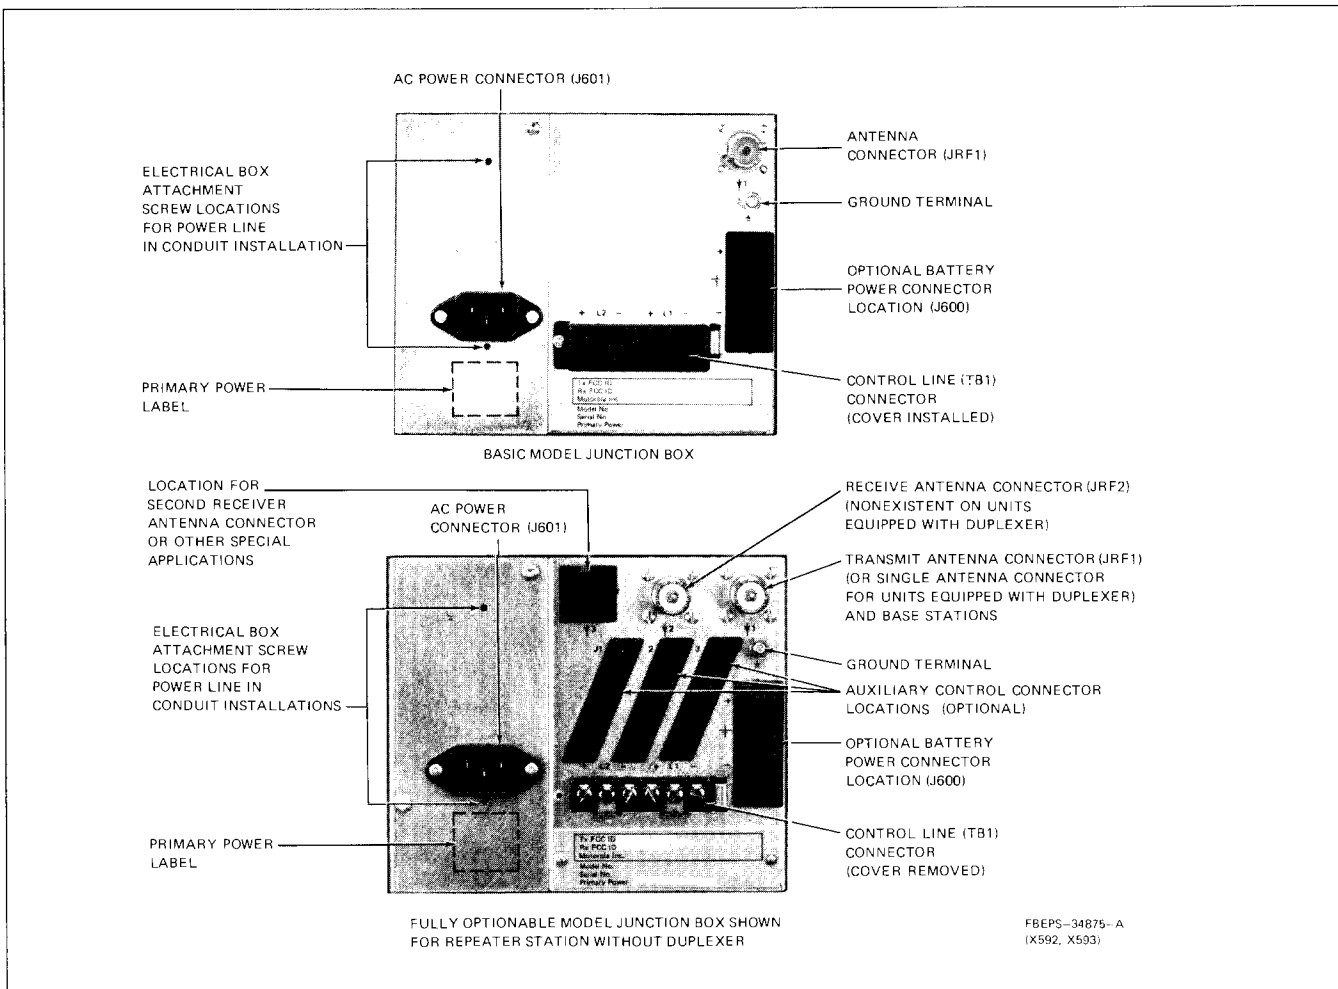

Figure 2. External Connection Details
6.3 All coaxial antenna cables connect to UHF coaxial connectors located on the junction box. For repeater stations without the optional duplexer, two antennas are required; one for the transmitter and one for the receiver. For repeater stations with the optional duplexer, only one antenna is required. Refer to Figure 2 for antenna connection details.
Step 2. Connect the female plug of three-wire ac line cord to the power connector on the junction box. See Figure 2.
Step 4. Attach a 4-1/8" × 2-3/8" × 1-1/2" electrical box (Appleton Catalogue No. 184-E universal code 69351 or equivalent box extension ring, not supplied) to the junction box using two #6-32 × 5/16" long self tapping washer head screws in the holes provided. See Figure 2.
Step 3. Connect the blue connector (P605, part of the TRN5155A External Battery Cable Kit) into the optional battery power connector (J605) located on the junction box. See Figure 2.